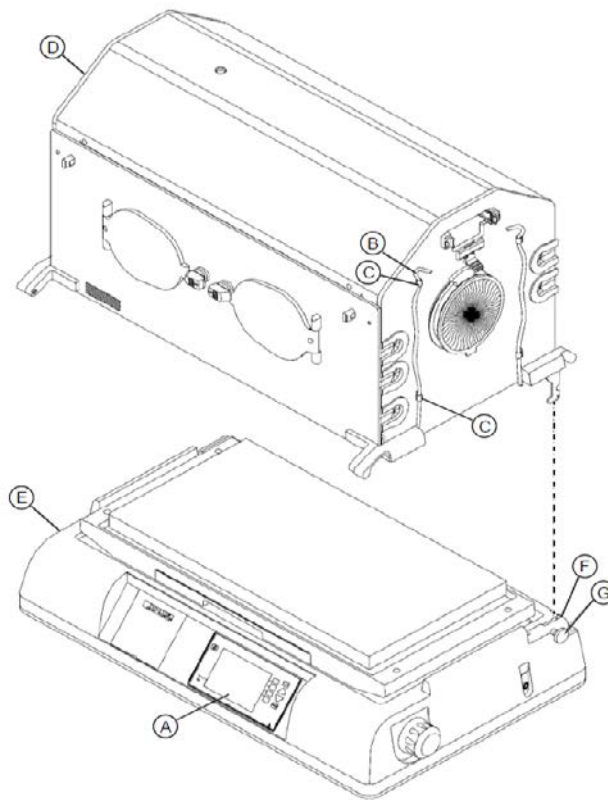

Fig. 43 Hood Assembly
- 5 Unplug the power cord from the back of the controller assembly (Fig. 43/A).
- 6 If installed, remove the scale connector cable (Fig. 43/B) from the cable clamps (Fig. 43/C) on the end of the hood assembly (Fig. 43/D).
- 7 Tilt the hood assembly (Fig. 43/D) back until it is fully open.
- 8 Stand one person behind the incubator at each end of the hood assembly (Fig. 43/D), and have each person lift their end of the hood assembly (Fig. 43/D) straight up from the upper shell assembly (Fig. 43/E). The person at the sensor module end of the hood assembly (Fig. 43/D) **must** release the knob (Fig. 43/G) while lifting.
- 9 Carefully remove the hood assembly (Fig. 43/D) from the unit.